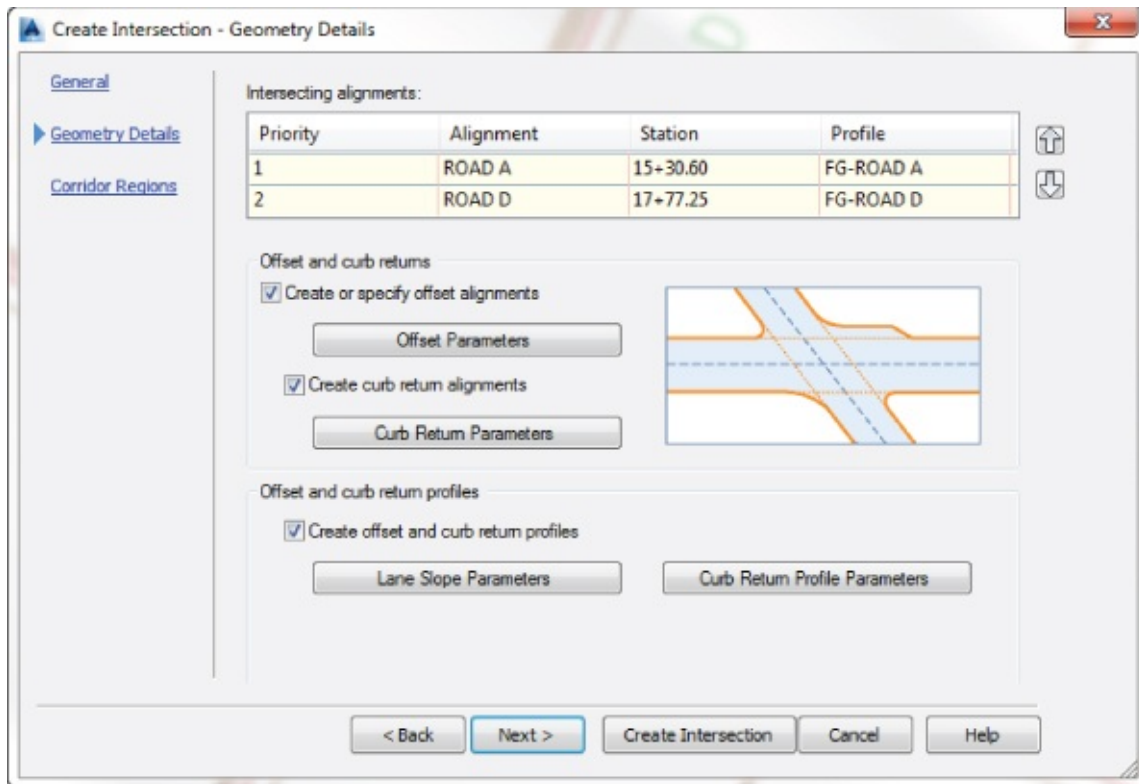

Figure 10.21 The Geometry Details page of the Create Intersection Wizard
6. In the Geometry Details page (Figure 10.21), verify that ROAD A is the primary road by looking at the Priority list. If ROAD A is not at the top of the list, use the arrow buttons on the right side to